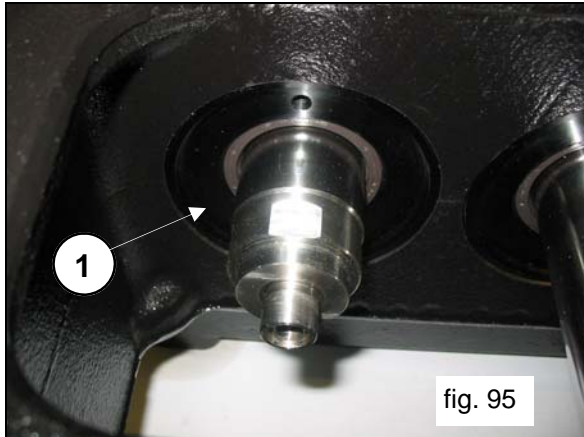
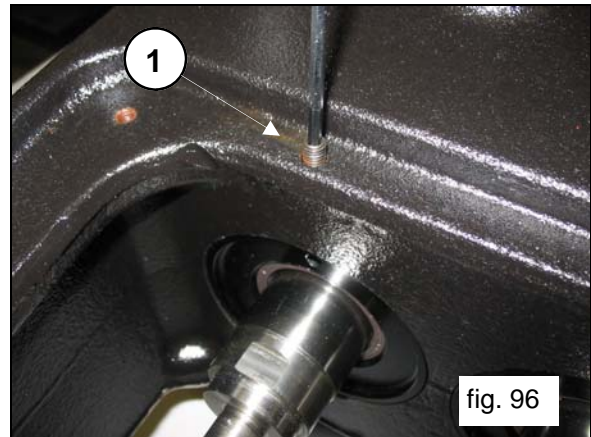

fig. 95
fig. 96
Insert the assembly into the casing and into the seat provided, making sure that the cover completely enters its seat (pos. ①, fig.95), being careful not to damage the lip of the radial seal ring. Screw in the oil seal covers using 2 x M6x30 grub screws (pos. ①, fig.96).